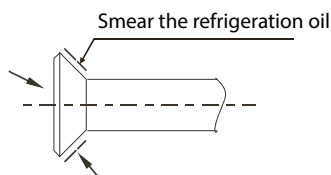

Figure 5.1
- Smear the refrigerator oil (it must be engine oil which is compatible with the cooling medium of this type) on the outside surface of flared joint and the conical surface of connecting nuts and screw it 3 or 4 rounds with your hand (Fig. 5.1) before screwing the flared nut up.